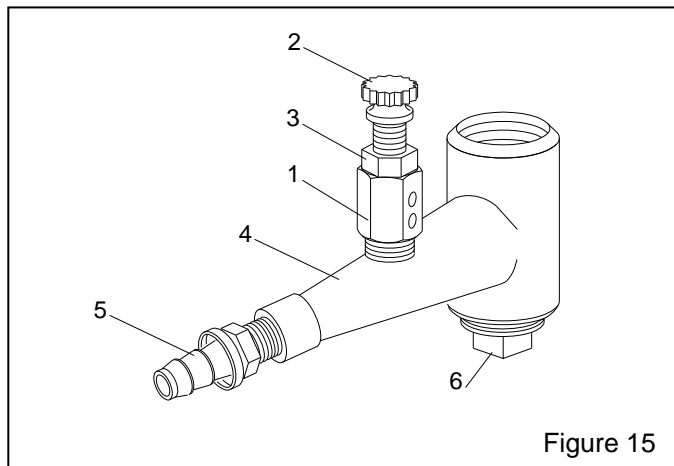

Figure 15
9.5 Metering valve assembly, Figure 15